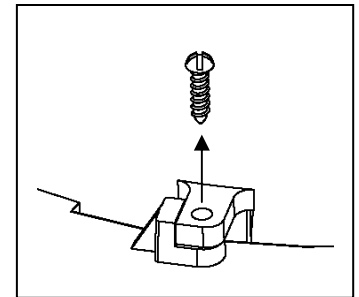

Fig. 5
2. Turn the Pond Boss™ assembly upside down. Remove the locking screw. Fig. 5